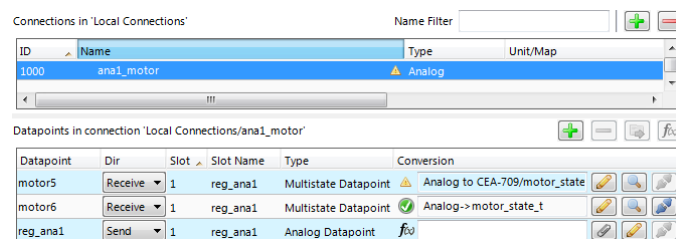

Figure 125: Connection tab with a connection and data points
3. Now the connection tab contains the new connection and on the right-hand side the list of data points in that connection as shown in Figure 125.